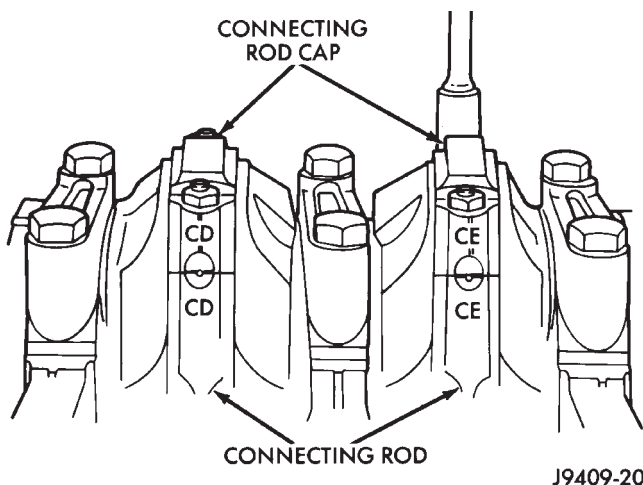

Fig. 61 Stamped Connecting Rods and Caps
- (1) Remove the engine cylinder head cover.
- (2) Remove the rocker arms, bridges and pivots.
- (3) Remove the push rods.
- (4) Remove the engine cylinder head.
- (5) Position the pistons one at a time near the bottom of the stroke. Use a ridge reamer to remove the ridge from the top end of the cylinder walls. Use a protective cloth to collect the cuttings.
- (6) Raise the vehicle.
- (7) Drain the engine oil.
- (8) Remove the oil pan and gasket.
- (9) Remove the connecting rod bearing caps and inserts. Mark the caps and rods with the cylinder bore location. The connecting rods and caps are stamped with a two letter combination (Fig. 61).